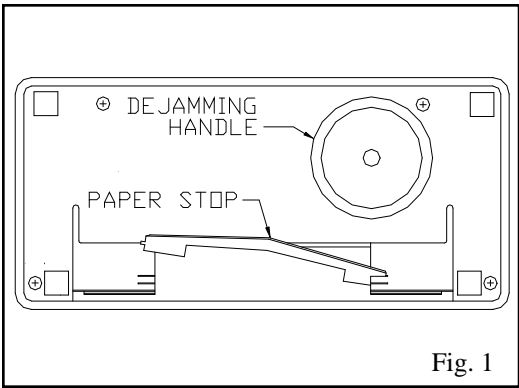
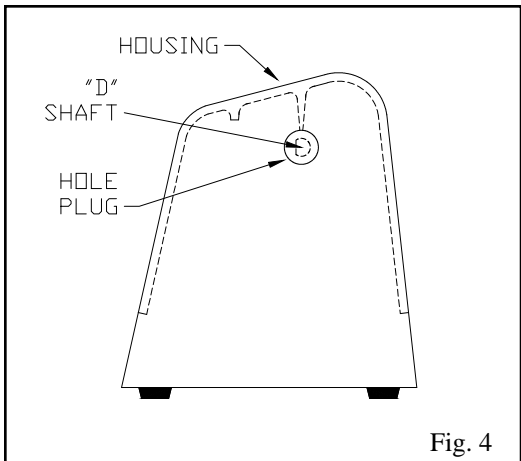

Fig. 1
Fig. 4
Before beginning to fold, make sure the paper stop (see **Figure 1**) is properly positioned for the paper you are using. When you view the bottom of the paper folder as shown in Fig. 1, the top pair of left and right slots is for 8 1/2" x 11" paper. The bottom pair of left and right slots is for A4 paper. If you need to change the position of the paper stop, remove it by gently flexing it in the middle and withdrawing one end first. Then insert it into the other pair of slots by gently flexing the paper stop and inserting one end first.
If paper becomes jammed, **unplug the folder**. From the bottom of the folder, remove the paper stop (see **Figure 1**) by gently flexing it in the middle and withdrawing one end first. Also remove the dejamming handle by turning it in either direction while pulling gently. Insert the dejamming handle through the hole in the folder cover onto the D-shaped shaft inside the unit (see **figure 4**). Turn the handle in either direction while carefully pulling the paper out the top or bottom of the folder. If unable to clear the jam, see the disassembly instructions below.
3. To clear a paper jam, remove the plastic paper stop from the bottom of the folder (see Figure 1). Turn the large pulley on the left side in either direction while carefully pulling the paper from the top or bottom of the folder.